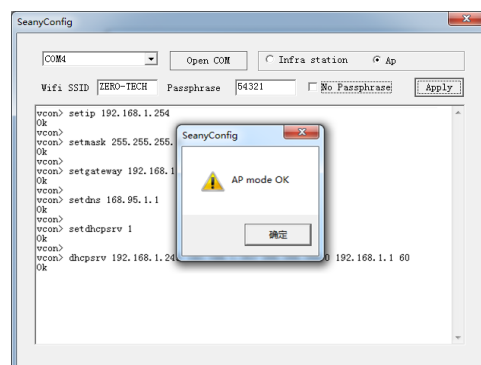

Figure 7
7. Click “Apply” and wait for completion of the software configuration; click “Yes” to exit after the window “Ap mode OK” pops up, as shown in Figure 7.